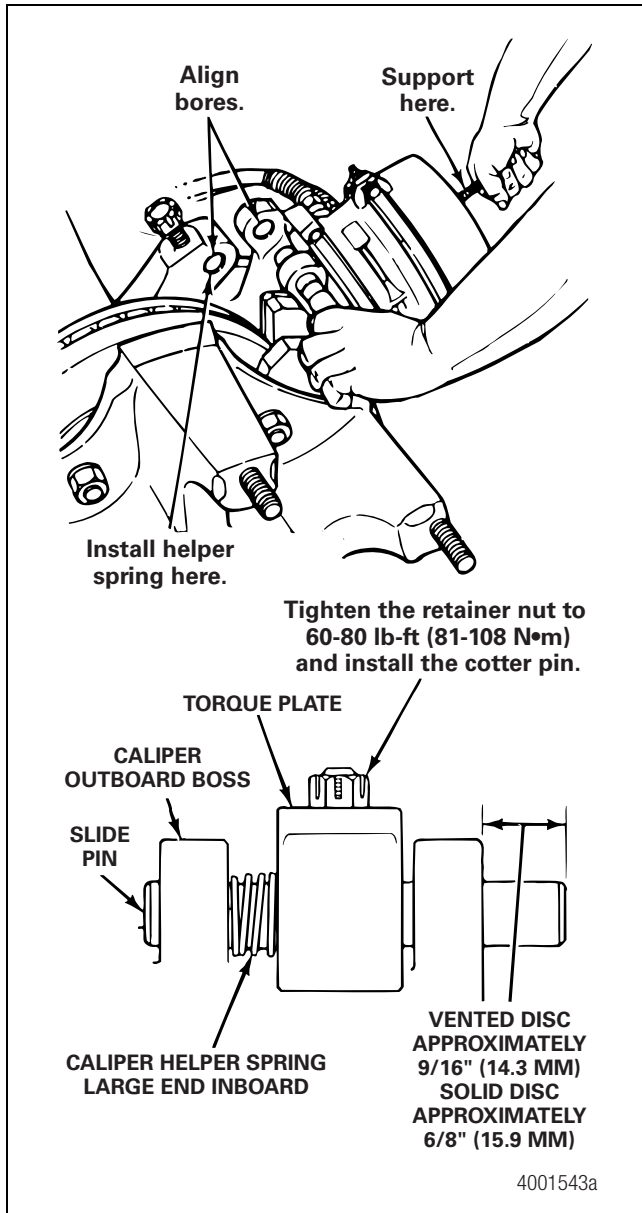

Figure 3.8
- Install one spring on each slide pin between the torque plate and the OUTBOARD caliper boss. Figure 3.8.